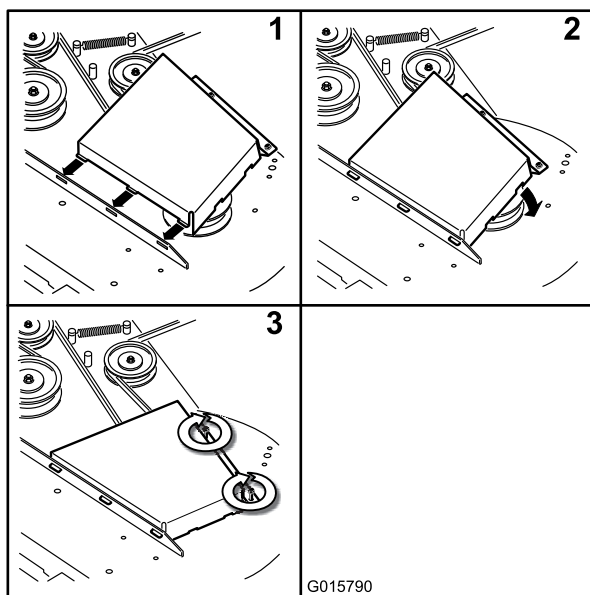

Figure 68
11. Install the belt covers (Figure 68).